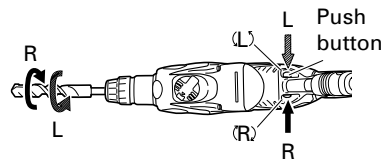

Fig. 6
9. Confirm the direction of bit rotation (Fig. 6)